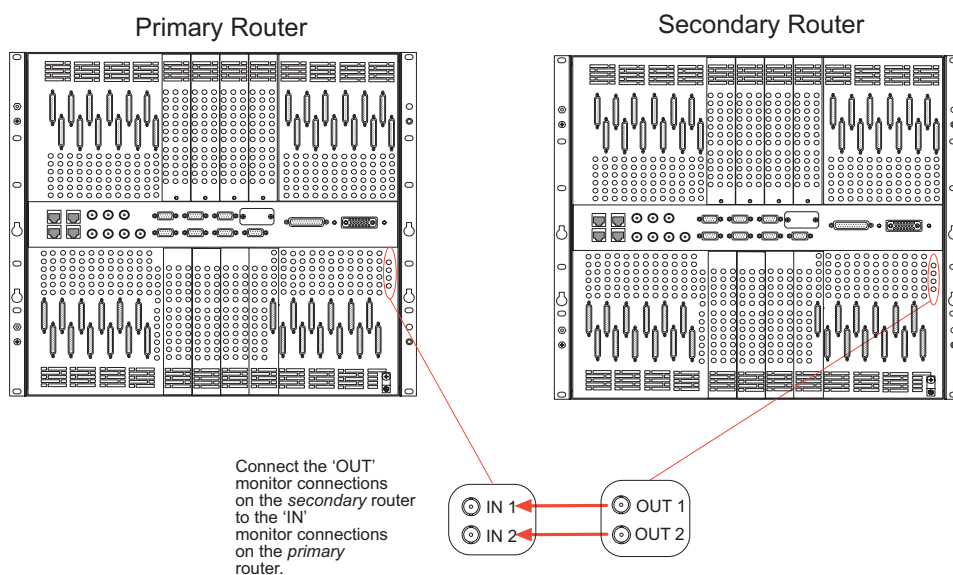

Figure 3-21. Monitor Connections Between Two NV8288-Plus Routers (Rear View)
- 3 Connect the other end of the cable to the ‘IN 1’ monitor connection on the *primary* router (the router with direct connections to the monitoring equipment), as shown in Figure 3-21.
- 5 Connect the other end of the cable to the ‘IN 2’ monitor connection on the *primary* router, as shown in Figure 3-21.